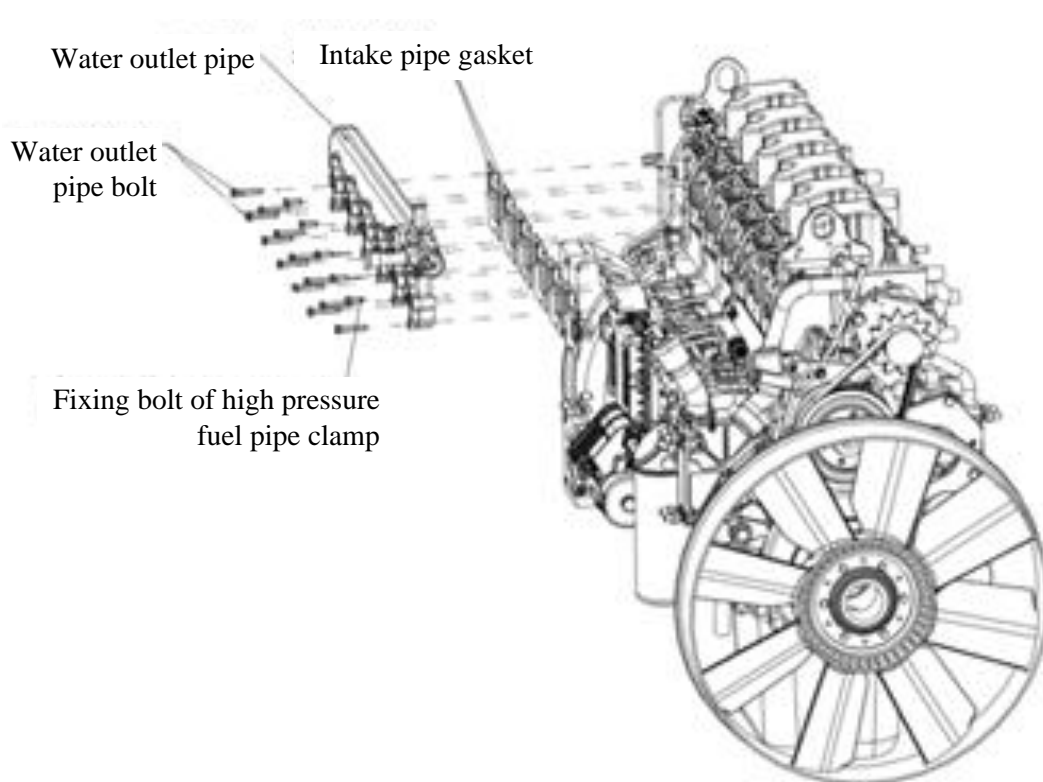

Fig. 4-4 Exploded view of water outlet pipe
- (1) Disconnect sensor wiring harness from water outlet pipe;
- (2) Remove intake pipe, refer to **46 Intake and Exhaust System** for details;
- (3) Screw off the fixing bolt of high pressure fuel pipe clamp;
- (4) Remove water outlet pipe fixing bolts orderly, take down the pipe;
- (5) Water outlet pipe gasket and intake pipe gasket for WP10 two-valve type engine are designed as a whole, take it down after step (4). As shown in Fig. 4-4.